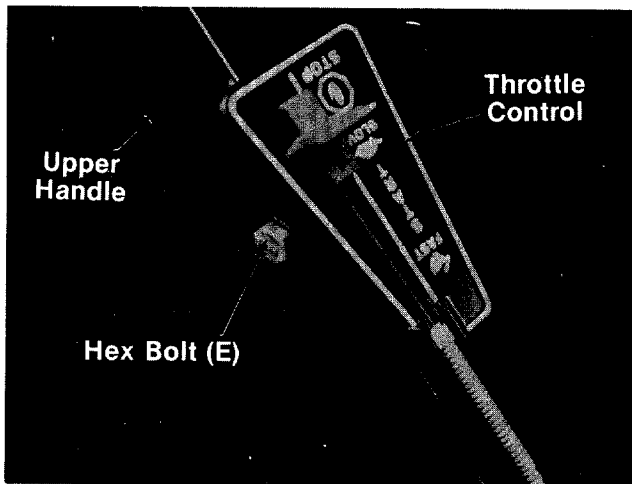

FIGURE 4.
6. Place the throttle control in position on right side of upper handle. Secure with hex bolt and lock nut. See figure 4.